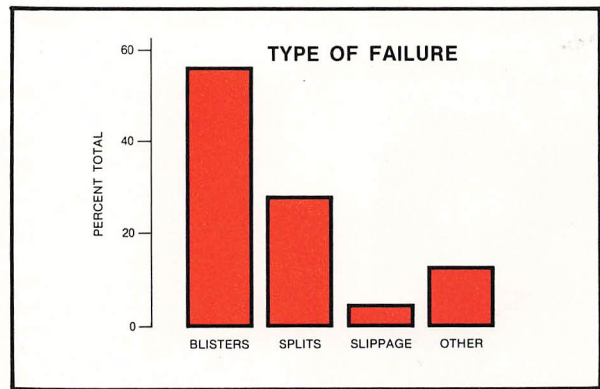

FIG. 4
B. Problem Data: It is also possible to use PINPOINT information to establish the characteristics of job failures. Figures 4 and 5 give several examples of this use.
- Figure 4 - In this case the frequency of failure types is shown. Not surprisingly blisters and splits account for almost 85% of failure mechanisms.